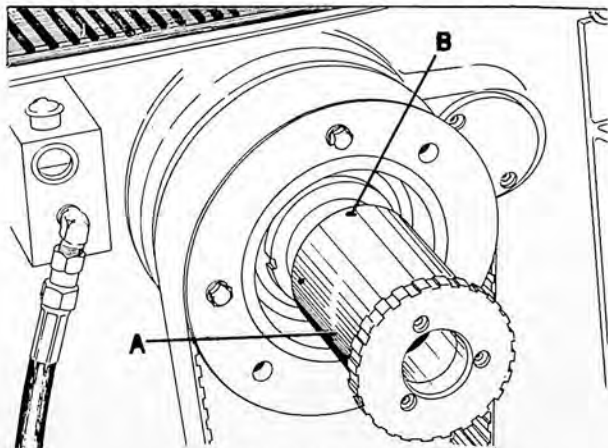

FIGURE 1
2. Install adjusting nut assembly (A, figure 1) on spindle. If necessary tap lightly with a soft hammer until nut bottoms on spindle.
3. Insert brass plugs in set screw holes and install socket set screws (B).